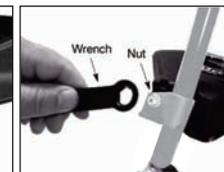

Fig. 2
4. Reinstall nut and tighten securely with wrench (provided)(Fig. 2).